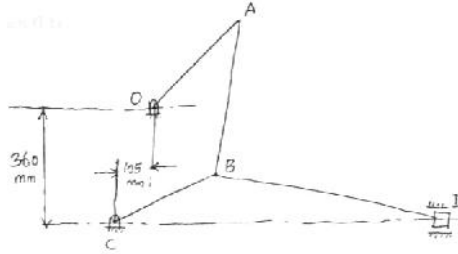

Fig.3
5. For the toggle mechanism as shown in figure 3, the slider D is constrained to move along horizontal direction. The crank rotates at 180 rpm. The dimensions of various links are as follows. OA = 180 mm; CB = 240 mm; AB = 360 mm; BD = 540 mm. For the given configuration determine the velocity of the slider and angular velocities of links AB, BC and BD. Also determine the linear acceleration of the slider D.